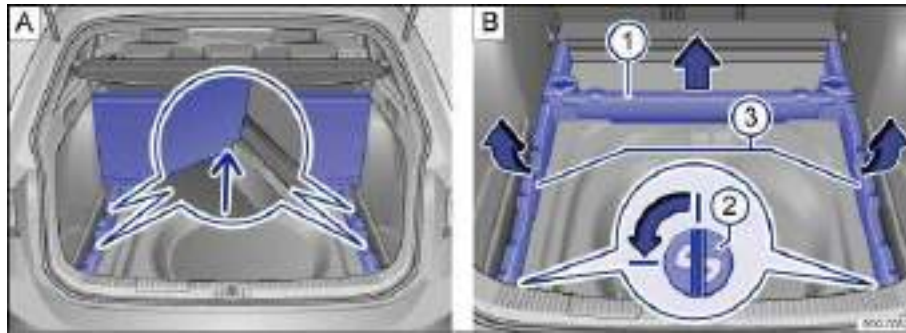

Fig. 100 In the luggage compartment: A: Raised luggage compartment floor, B: Removing the luggage compartment floor supports.
- Fit the outer edges of the rear luggage compartment floor section into the recesses on the supports ⇒ fig. 100 A (magnified view, arrow).
- Pull the front luggage compartment floor support ⇒ fig. 100 B \(1\) upward in the direction of the arrow and remove it from the luggage compartment.
- Unlock both retaining pins ⇒ fig. 100 B \(2\) (magnified view) by turning them a quarter turn (90°) in the direction of the arrow and lifting them out.
- Lift the two side luggage compartment floor supports ⇒ fig. 100 B \(3\) at the rear in the direction of the arrow and pull them out of the front mountings to the rear.
- Safely stow away the removed luggage compartment floor supports ⇒ fig. 100 B \(1\), \(3\) and the retaining pins ⇒ fig. 100 B \(2\).